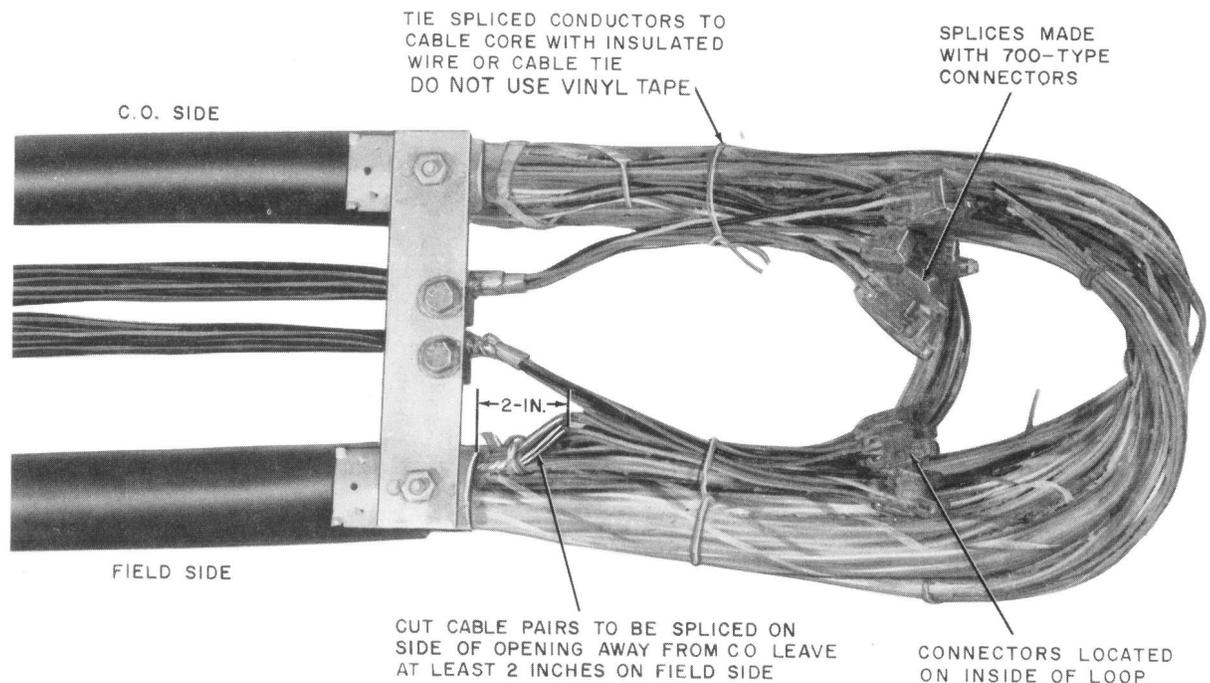

Fig. 23—Wire Work Complete
4.06 When the engineering work print calls for cutting the cable pairs dead ahead, cut the cable pairs to be spliced on the side of opening away from CO (Fig. 23). Twist the ring and tip conductors together to maintain identification. Splice the service wire pairs to the cable pairs using 700-type connectors as outlined in Section 632-205-215.
4.07 Stagger the position of connectors around the inside of the loop to achieve a minimum and uniform bundle size. Using insulated wire or cable ties, tie the spliced wire to the cable core (Fig. 23). **Do not wrap splice bundle with vinyl tape.**